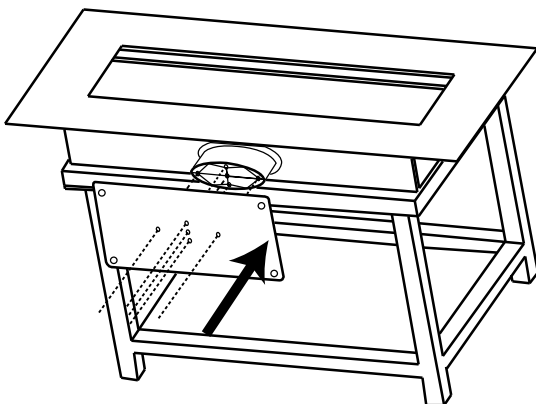

Fig. 3-5
- D. Prepare the glass base and ensure that the rubber feet of the glass base are facing away from the appliance (**Fig. 3-5**).